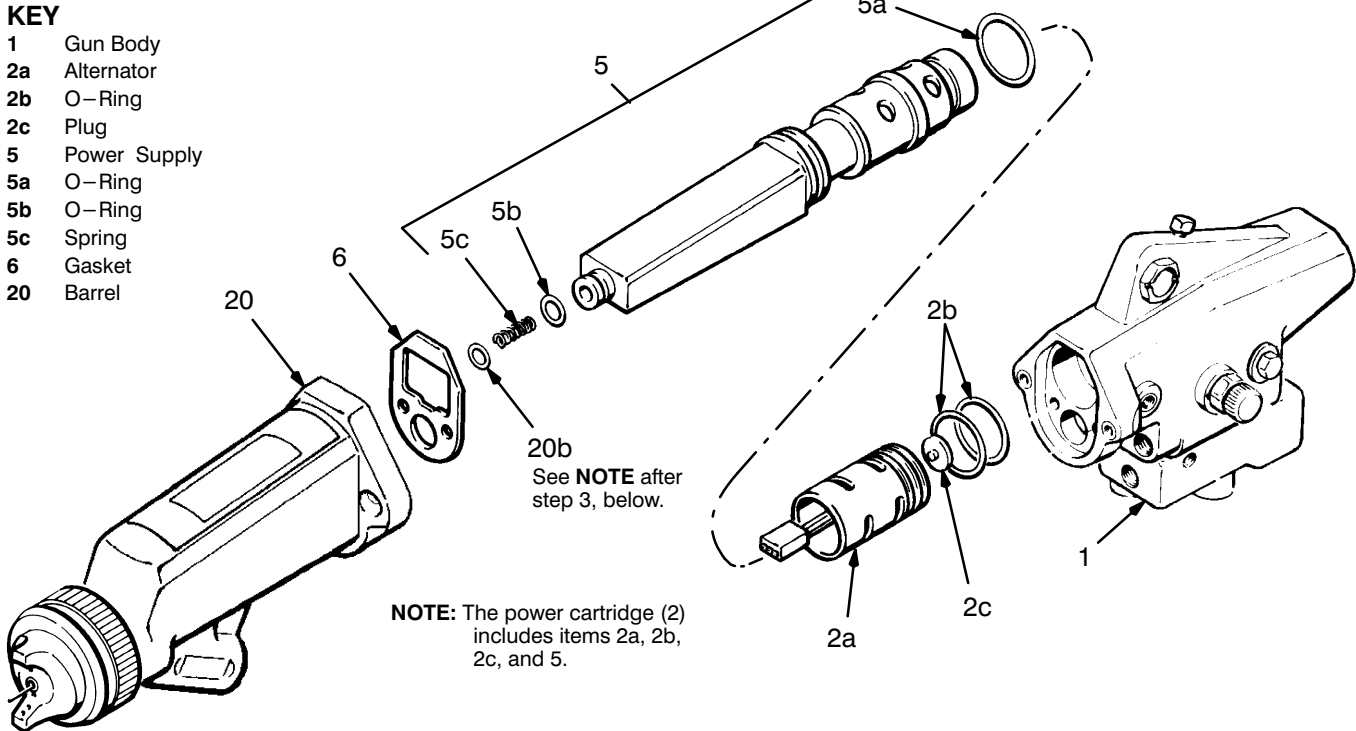

Fig 17
2. Remove the gasket (6) from the gun body (1). See Fig 17.